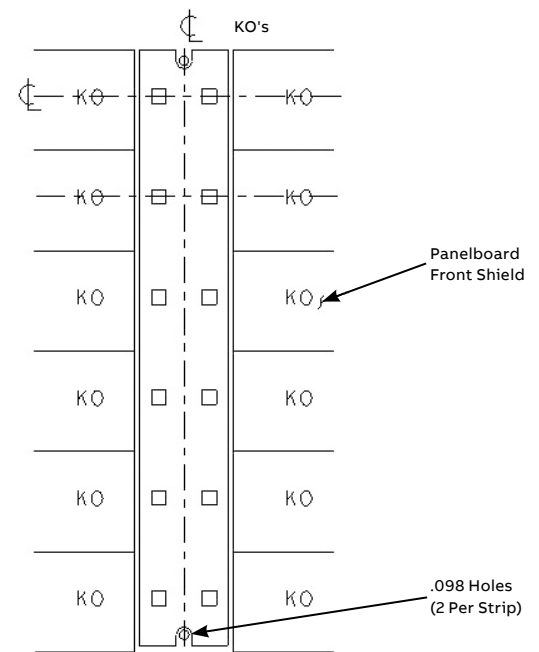

Figure 1
Remove shield from panel. Using mounting strip as a template, align rectangular holes with the center of the breaker openings (KO). Mark position of the radius slot at the top and bottom of each strip. Remove the strip and drill a .098 diameter hole (#39 drill) at each mark. See Figure 1. Install marker strips according to instructions below.